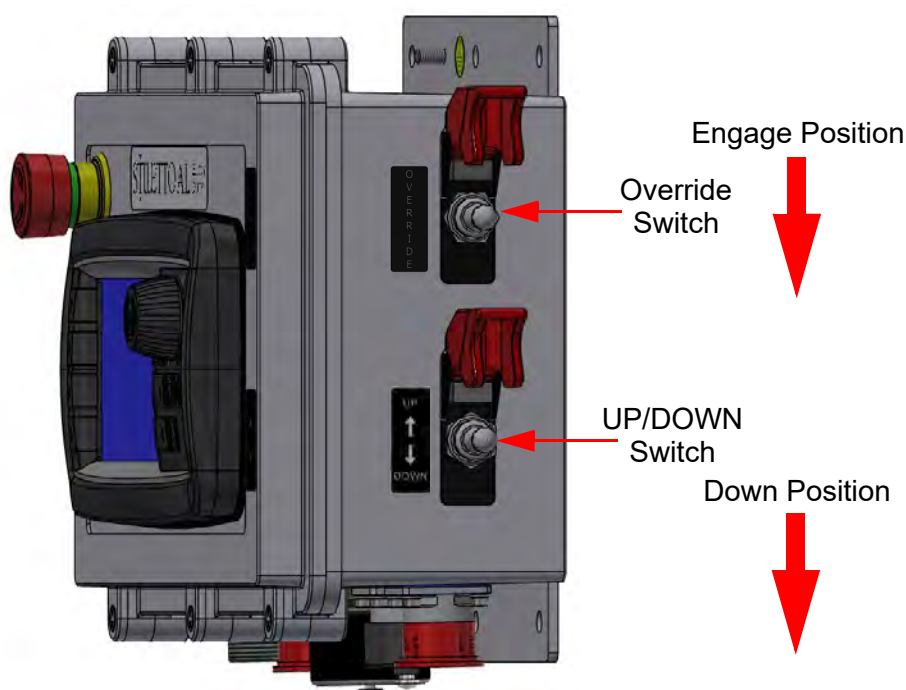
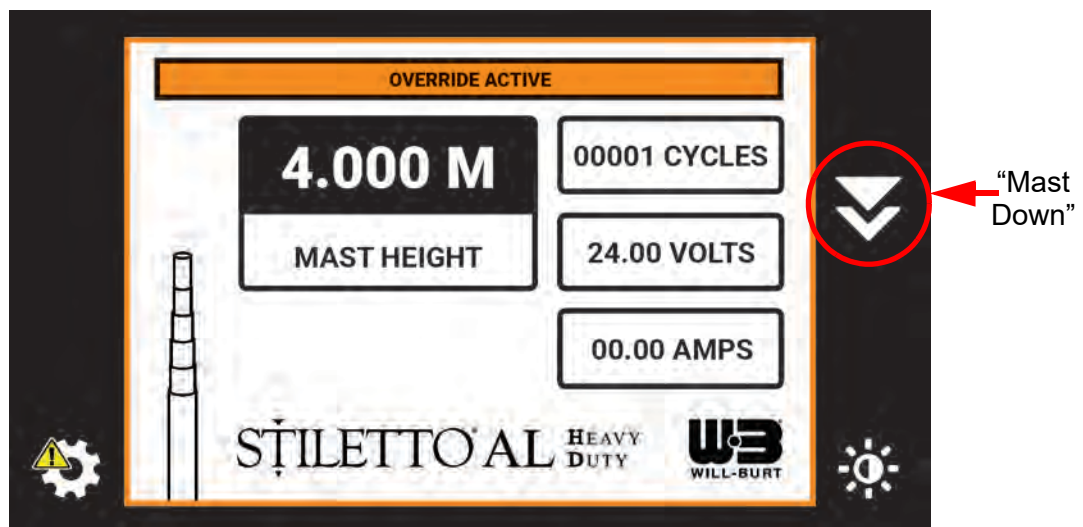

Figure 6-3 OVERRIDE Switch Engage Position and UP/DOWN Switch Down Position
Figure 6-4 Override Active Screen
2. Hold the OVERRIDE Switch in the engage position and the hold the UP/DOWN Switch in the down position (Figure 6-3). As long as both switches are held, the mast will retract and the display will show the Override Active Screen (Figure 6-4). Be sure to stay clear of the collars during operation as they create a pinch point hazard.
2. Hold the OVERRIDE Switch in the engage position and press and hold the “Mast Down” button. As long as both the OVERRIDE switch and the “Mast Down” button are held, the mast will retract and the display will show the Override Active Screen (Figure 6-4). Be sure to stay clear of the collars during operation as they create a pinch point hazard.